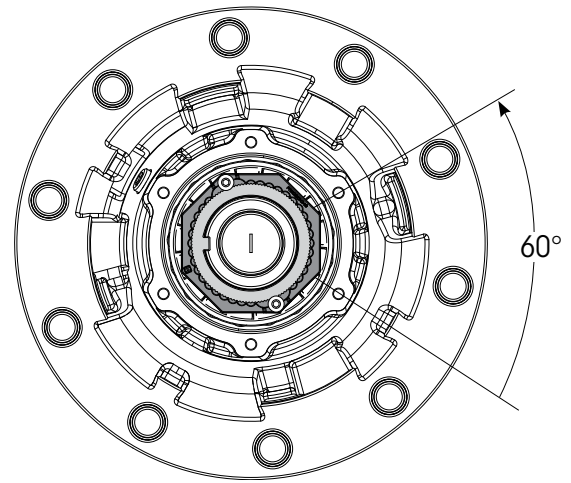

Figure 14: Back off nut 1/8 turn
8. Back off nut 1/8 turn (Figure 14, one hubcap screw hole).